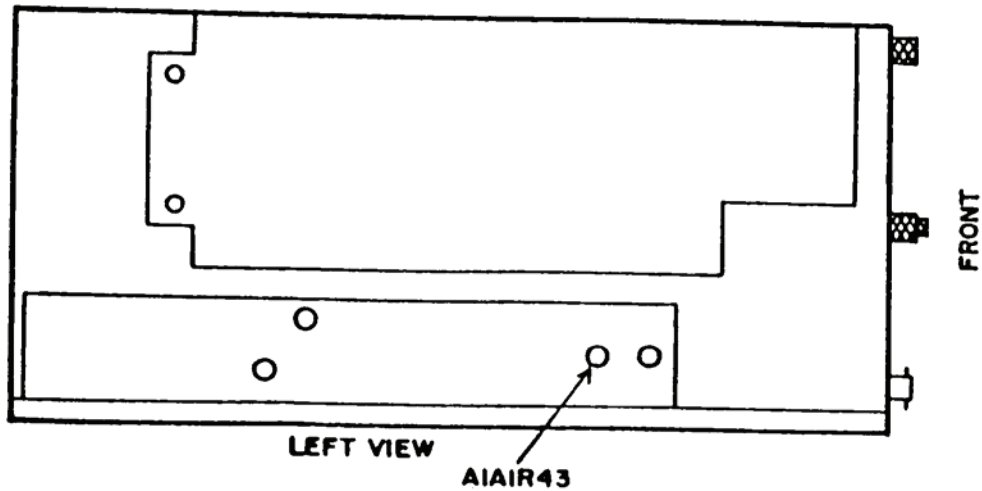

Figure 3. Test instrument - left view.
(29) Set **HI LVL -  $\mu$ VX100-NORM** switch to **NORM** and **BFO-RF LEVEL** control to **-80 dBm**. Measuring receiver will indicate between -74 and -86 dB.
**b. Adjustments.** Adjust A1A1R43 (fig. 3) until measuring receiver indicates -60 dB (R).
- (1) Adjust A1A1R43 (fig. 3) until spectrum analyzer indicates signal at the reference established in **a** (5) above (R).
- (2) This adjustment may have to be set for best in-tolerance compromise between 100 and 999 MHz.